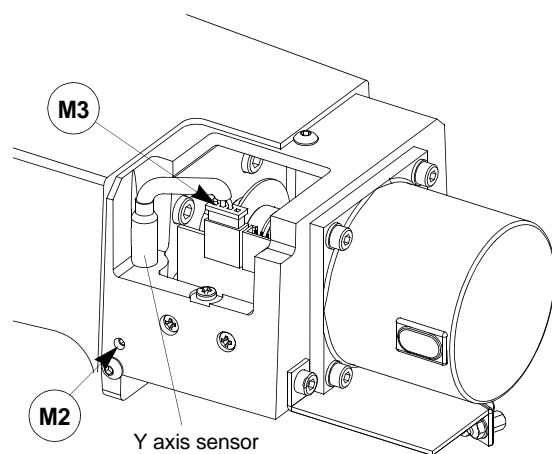

Fig. 145
- 5) disconnect the (M3) sensor's connector (fig. 145).
- 7) remove the faulty sensor and replace it with a new one. Screw it in until it almost touches the underlying rod (fig. 145). Tighten the (M2) grub screw to lock the sensor into place.